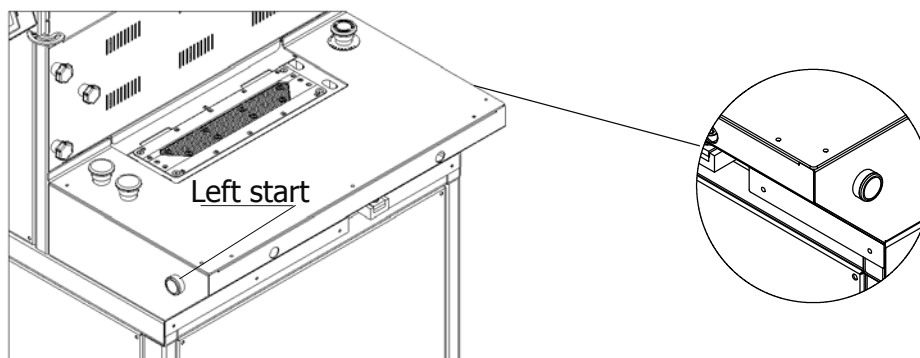

Figure.19
- d) While urgent stop button is pressed, wait to return mould's place holding down right and left buttons at once. (Figure.19)